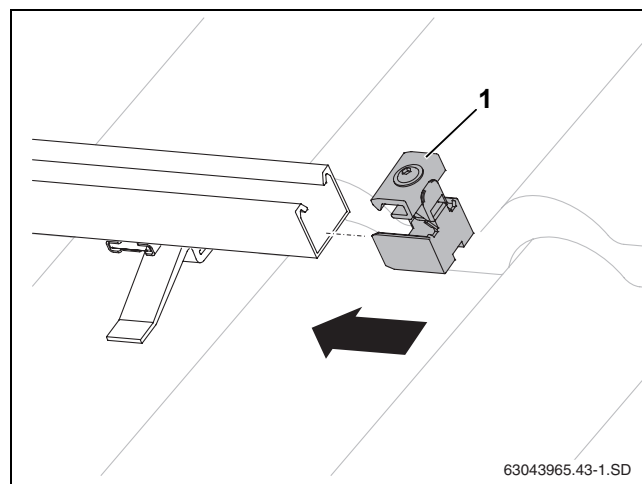

Fig. 39 Fitting the single sided collector clamp
- Insert the single sided collector clamp on the profile rails (Fig. 39, [1]) on the right hand end of the collector array until they click into place in the first slotted hole on the profile rails.